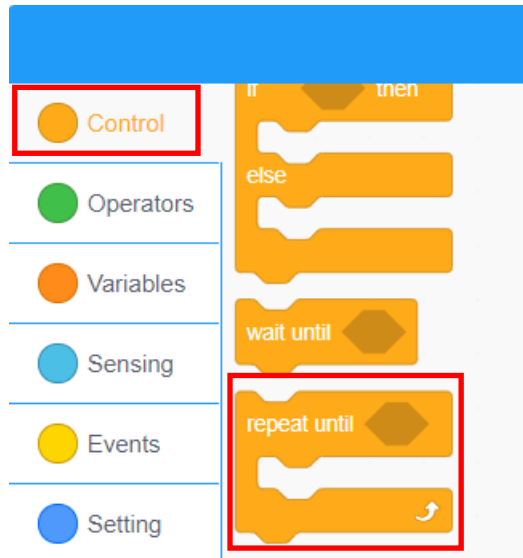

Figure 2.17 Block of repeated execution
- 1) You can use "repeat until" block. Click the "**Control**" tab and drag the "repeat until" block to the code area, as shown in Figure 2.17.